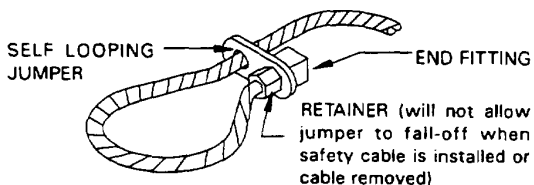

Figure 2-84. Self Looping Safety Cable TM 1-1500-204-23-6
(4) Installing Holes. Safety cable must be installed through the holes intended for this purpose in the part being secured, or through the holes provided in a self looping device secured to the safety cable by the safety cable manufacturer (figure 2-84). In applications where holes are not provided for safety cable in the component to which it is attached the self looping safety cable may be used in a manner like, or similar to figure 2-85.